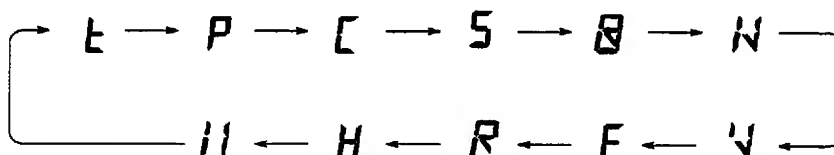

Fig. 7-1 Sequence of self-test
2. Press the  key to select test. Each press changes the test, as well as the display indication, in the sequence shown in Fig. 7-1. Note that you can also select a test by the  key, in which case the sequence is reversed.